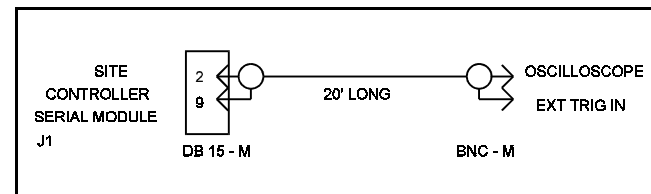
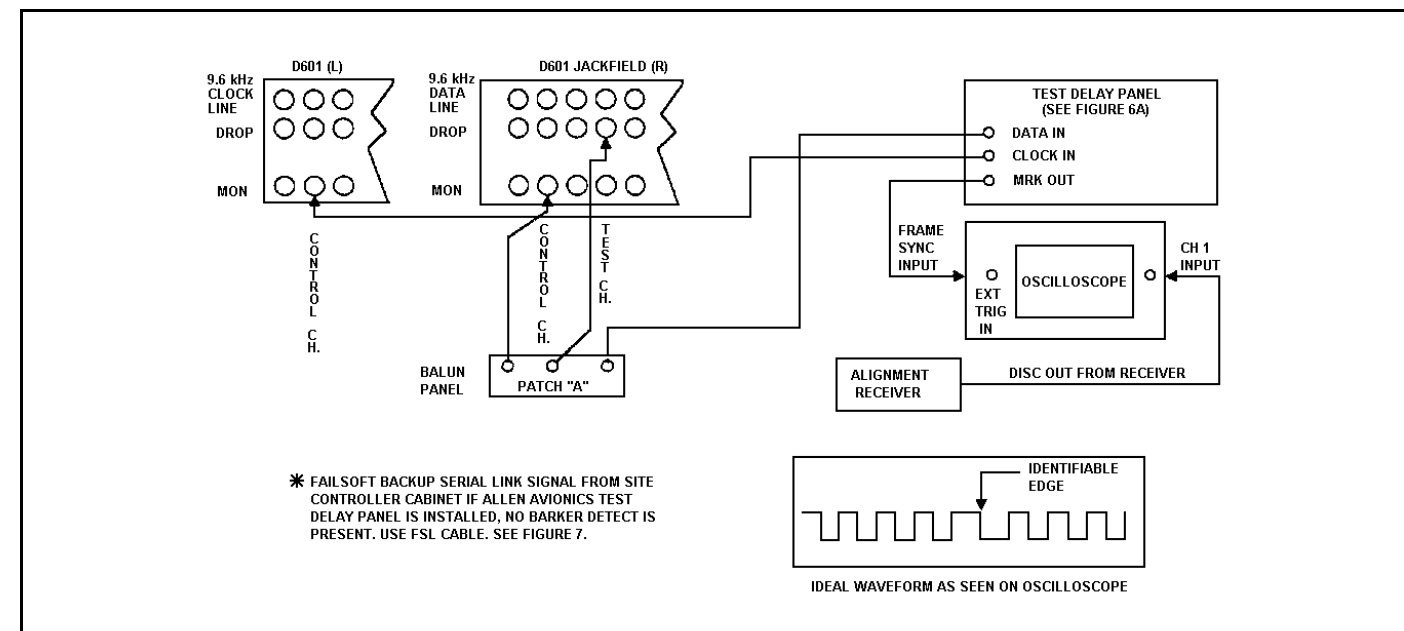

Figure 7 - FSL Cable
Figure 6 - Digital Delay Adjustment
2. At the jackfield, patch the control channel data into the channel being set (D601 9.6 DATA). See Figure 6.
- With the test delay set to zero "0", use delayed sweep on the oscilloscope to display the "dotting/barker" region of the control channel data (External trigger on FSL, discriminator output of the test radio set to the proper RF channel). On the control panel, only the site under test should have PTT ON (See Figure 6 for "dotting/barker" region and oscilloscope hook up). If no sync out is present, use FSL Cable. Refer to Figure 7.
Perform the steps in the order given. Refer to the Figure 6 and to Delay Unit Shelf Assembly Maintenance Manual LBI-38941. Ensure delay A/B select switch (S2-1 & S6-1) are in the "A" position on delay card (Closed), except for loop systems, switches should be open to allow "B" select.
- Connect the test equipment as shown in Figure 6.
5. Set the oscilloscope to view the first "dotting/ barker" region of data after the scope triggers using delayed sweep. Pick a uniquely identifiable zero crossing of data (see Figure 6). You may want to use AVERAGE of the oscilloscope traces to display a smoother trace.